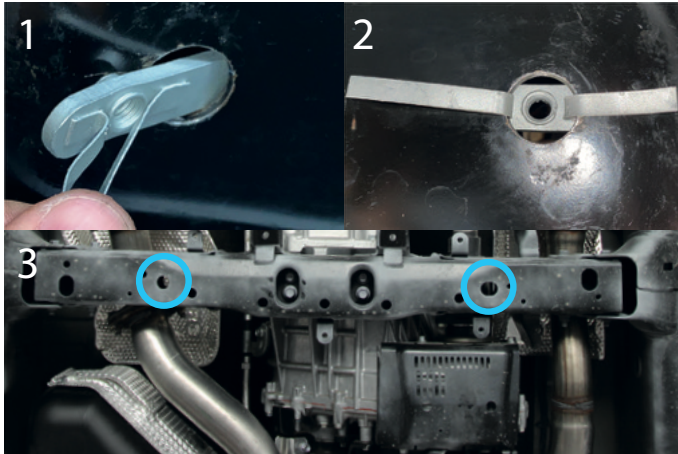

Fig. 5
5. Install insert nuts M8x70 (item A) as shown in fig.5.